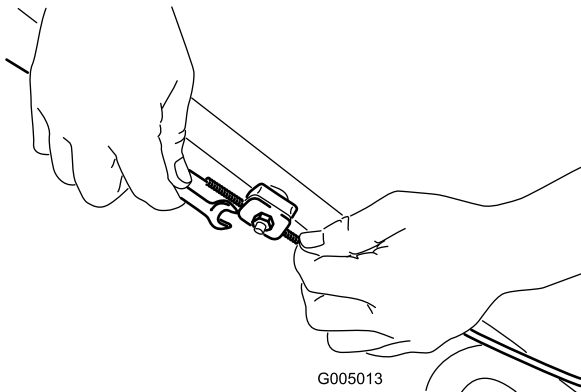

Figure 23
1. Loosen the cable-support nut (Figure 23).